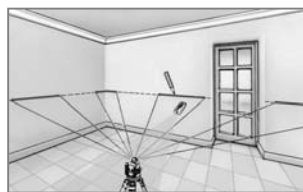

Figure 1
- The most precise measuring results are achieved if the position of the device remains absolutely unchanged. The best way to ensure this is by using the SensoCommander (Fig. 1).